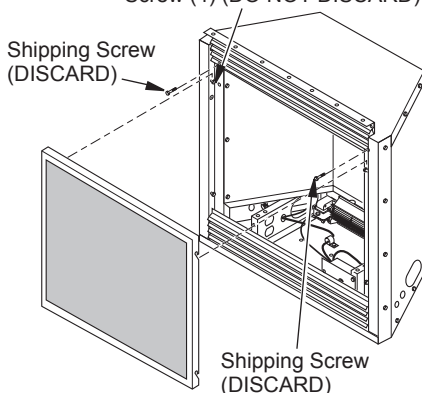

Figure 5 - Removing Screws and Screen
1. Using a 5/16" nut driver, remove two shipping screws and screen (see Figure 5, page 10). Discard these screws. Remove 5/16" screen mounting shoulder screws (do not discard).